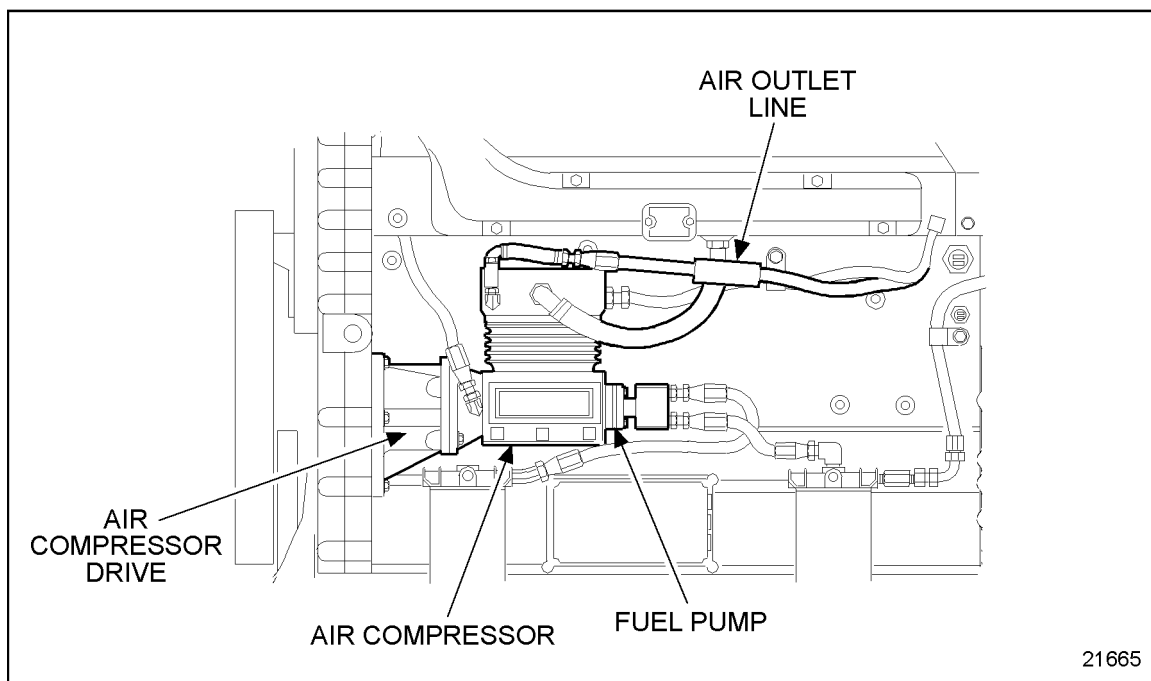

Figure 20-1 Air Compressor Air Outlet Line
2. Disconnect the air outlet line from the air compressor; see Figure 20-1; refer to Section 10.1.2.